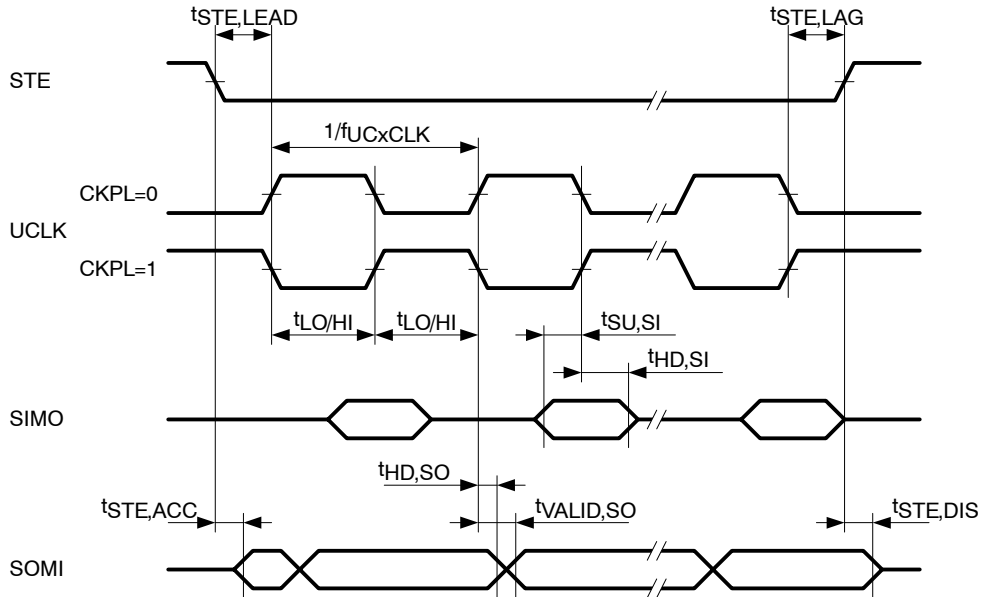
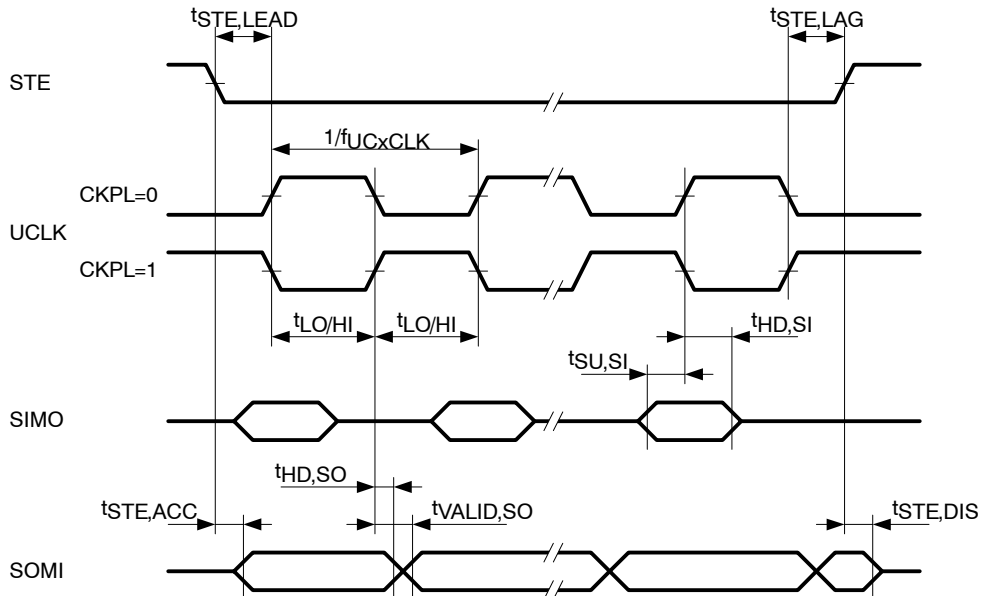

Figure 23. SPI Slave Mode, CKPH = 0
Figure 24. SPI Slave Mode, CKPH = 1
electrical characteristics over recommended ranges of supply voltage and operating free-air temperature (unless otherwise noted) (continued)**USCI (SPI slave mode) (see Note 1, Figure 23, and Figure 24)**
- Specifies the time to drive the next valid data to the SOMI output after the output changing UCLK clock edge. Refer to the timing diagrams in Figure 23 and Figure 24.
- Specifies how long data on the SOMI output is valid after the output changing UCLK clock edge. Negative values indicate that the data on the SOMI output can become invalid before the output changing clock edge observed on UCLK. Refer to the timing diagrams in Figure 23 and Figure 24.